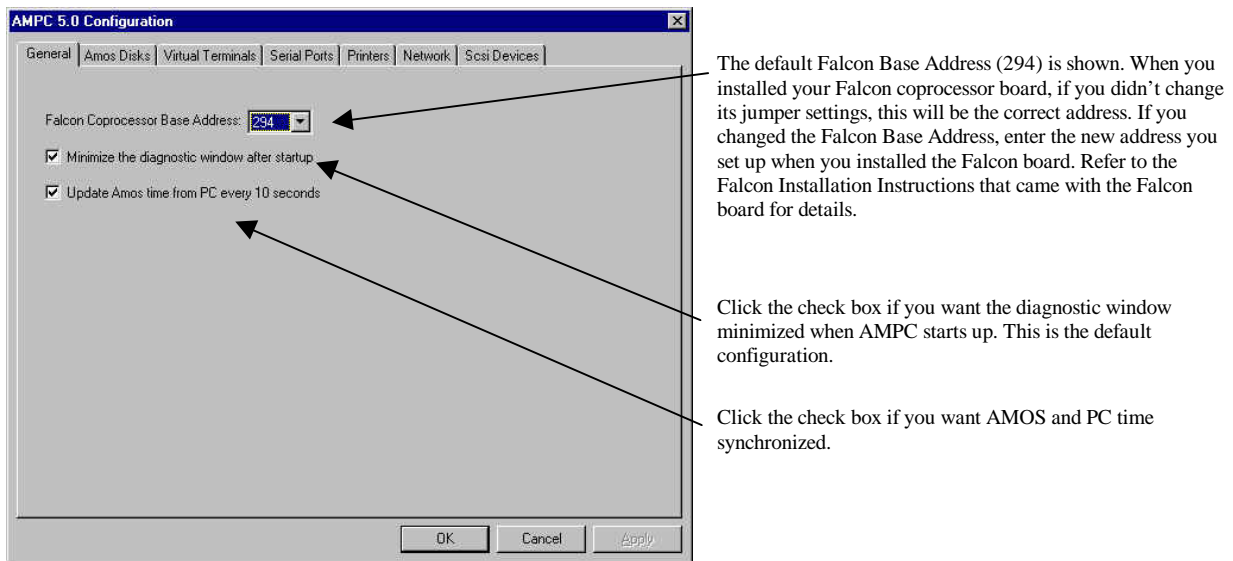

Figure 1 – AMPC 5.0 Configuration – General tab
7. Click on the *General* tab, as shown in Figure 1. Set up the parameters as indicated in Figure 1.